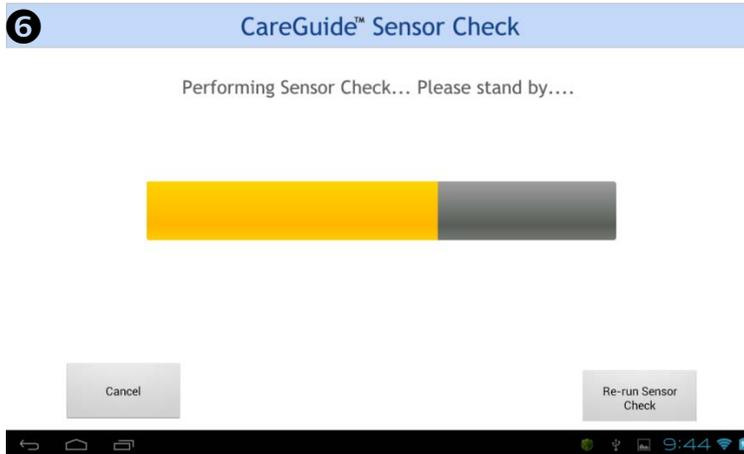

Figure 8. Sensor Check In Progress
- 6 Checking takes about 45-50 seconds (Figure 8 ❻).